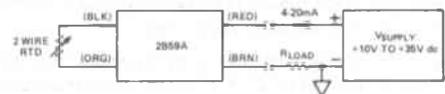

Figure 2. Basic Application
1. Connect the transmitter as shown in Figure 2. Substitute a resistance standard for the RTD and use a load resistor for the appropriate power supply voltage, as specified by the graph of $R_{LOAD\ max}$ vs. V_{SUPPLY} (Figure 1).